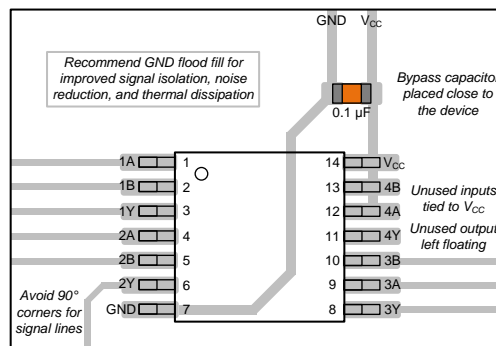

Figure 11. Example layout for the PW package for 2-input logic gates
2. Add a decoupling capacitor from V_{CC} to GND. The capacitor needs to be placed physically close to the device and electrically close to both the V_{CC} and GND pins. An example layout is shown in Figure 11.
The power supply can be any voltage between the minimum and maximum supply voltage rating located in the Absolute Maximum Ratings table. Each V_{CC} terminal should have a good bypass capacitor to prevent power disturbance. A 0.1- μF capacitor is recommended for this device. It is acceptable to parallel multiple bypass caps to reject different frequencies of noise. The 0.1- μF and 1- μF capacitors are commonly used in parallel. The bypass capacitor should be installed as close to the power terminal as possible for best results, as shown in Figure 11.